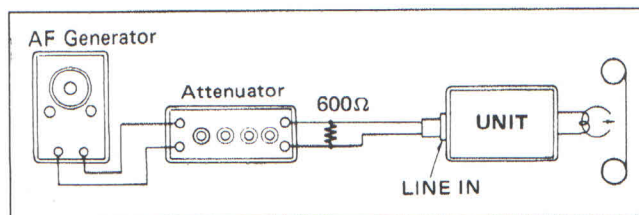

Fig. 4-4
1. Under the standard recording condition, record the 333Hz signal. Then continue the recording with no signal. (Fig. 4-4)
1. Set the DOLBY NR switch to ON and record no signal on the blank tape FeCr. (Fig. 4-4)
1. Feed 10kHz, -28dBs signal to the LINE IN jack, and set the deck into record mode of operation. Adjust REC LEVEL control to obtain -14dBs audio output at the LINE OUT jack (Fig. 4-4).